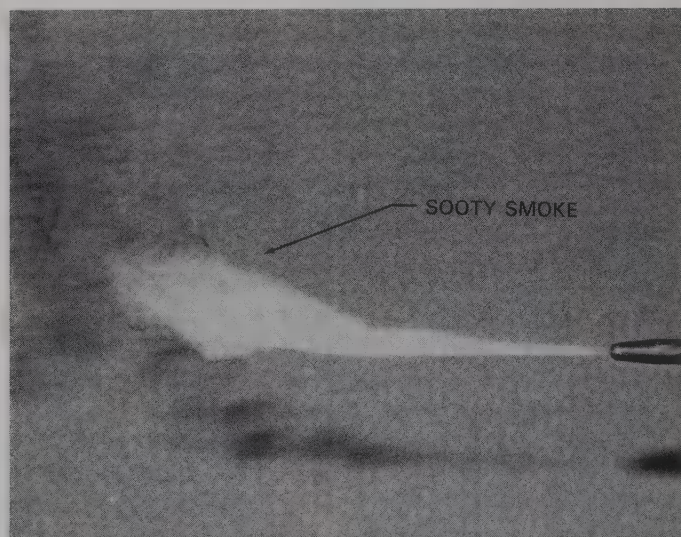

Fig. 5-10. Acetylene burning at the torch tip. The flame is long and gives off large amounts of black soot when oxygen is not present.
3. Open the acetylene torch valve until flame becomes turbulent (rough) about 3/4" to 1" (19-25 mm) from the end of the tip. Adjust the acetylene so the flame no longer smokes or releases soot. See Fig. 5-10.